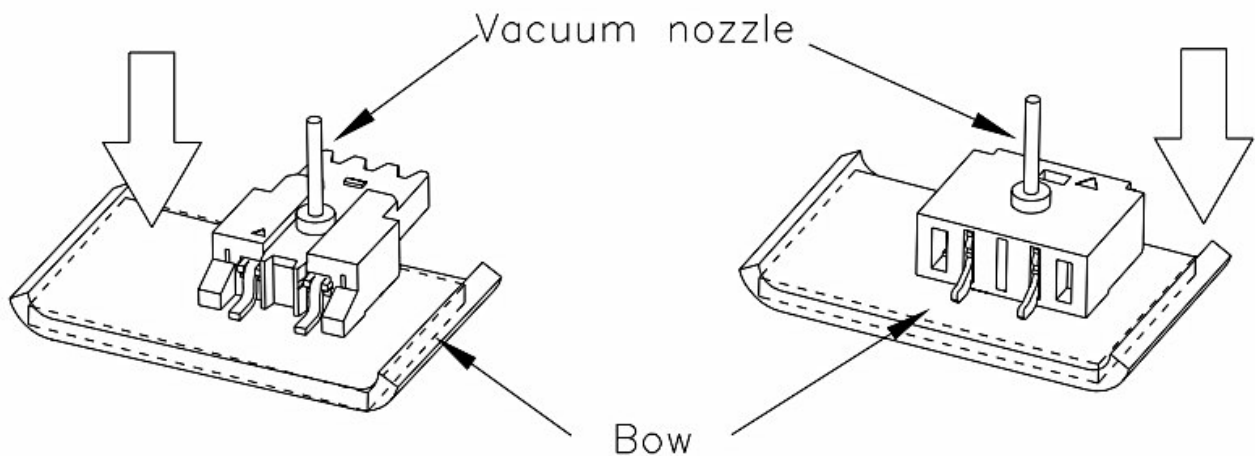

Fig. 2-5
- Please beware that the bottom dead center of vacuum nozzle and nozzle pressure when mounting. If nozzle position is too low or too much nozzle pressure is added, too much stress is added to product and that might cause soldering failure by transformation of tail part, nail part and thin part or bow of P.C.B. (fig. 2-5)